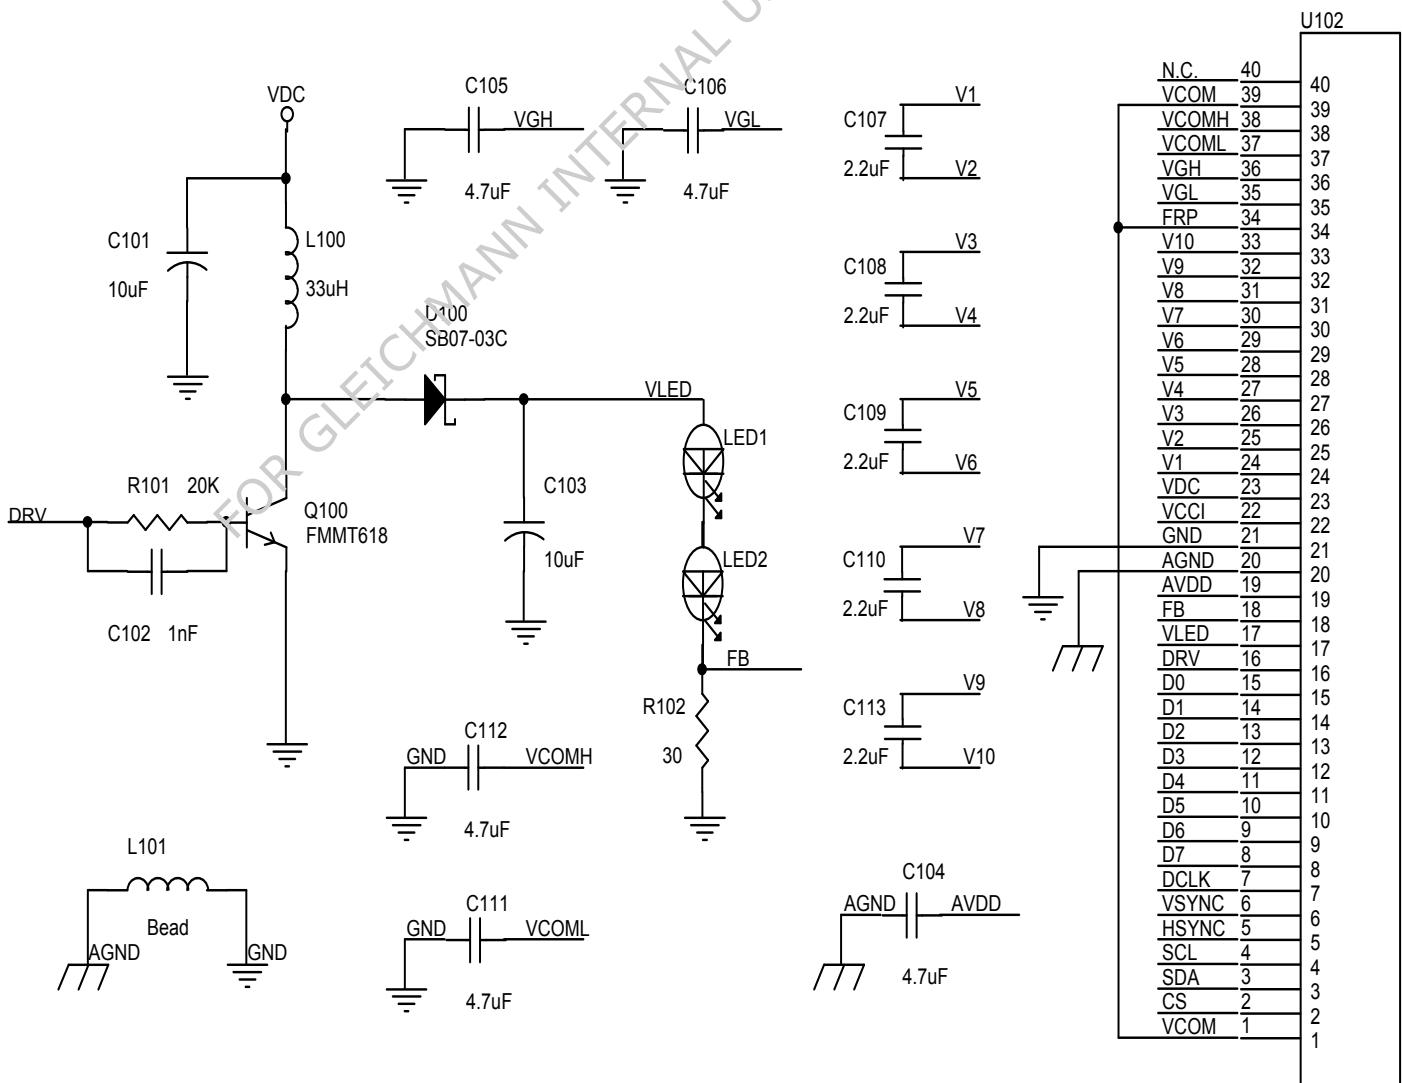

Fig.12 Typical Application Circuit
The integrated driver IC provides build-in LED booster controller, DC-DC charge pump, and Vcom driver. See Fig. 12 for the application circuit.
According to Fig. 12, the L100, Q100, D100, and C103 together form the LED boost converter. The converter with 0.6V feedback (FB) and R102 provide a constant 20mA current for LED backlight unit. The boost converter switching signal DRV is generated base on divided frequency of DCLK. Therefore the DCLK input is required for LED driver operation, and the absent of DCLK signal during normal operation will set the driver IC into standby mode. A low ESR capacitor for C103 is recommended in order to reduce voltage ripple of VLED. The build-in LED boost controller is default active, and it is able to be turned off by setting the register SHDB1 to low. The LED booster circuit may cause the wave like phenomenon. In order to reduce the phenomenon ,AGND and DGND (system GND) and LED booster circuit GND must be separated.